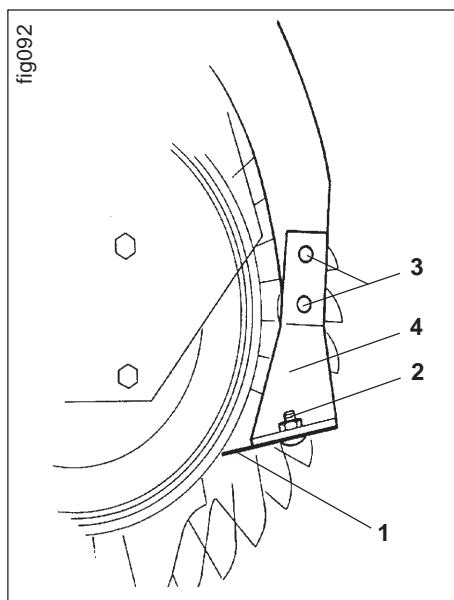

Fig. 11.3
Low adjustable scrapers (Fig. 11.3/1), made of spring steel prevent the roller from jamming. The scrapers have been set at the factory for light and medium soils. In case of very sticky soils, the scrapers must be set according to the soil conditions (close setting). However, the "close setting" is only necessary if the soil coating the roller drum is thicker than 2 mm.
- Adjust the position of the scrapers (Fig. 11.3/1) so that they touch the roller drum and secure in place by tightening the previously slackened locking bolts (Fig. 11.3/2). The scrapers (Fig. 9.2/1) should only slightly contact the roller drum.
- Slacken all of the locking bolts (Fig. 11.3/2) and slide the scrapers (Fig. 11.3/1) towards the rear of the slotted hole until they stop.
- Slacken the bolts (Fig. 11.3/3) and, according to the soil conditions, slide the scraper holders (Fig. 11.3/4) evenly upwards and retighten.
- Adjust the scrapers (Fig. 11.3/1) so that they touch the roller drum and secure in place by tightening the fixing bolt (Fig. 11.3/2). The scrapers (Fig. 11.3/1) should only slightly contact the roller drum.